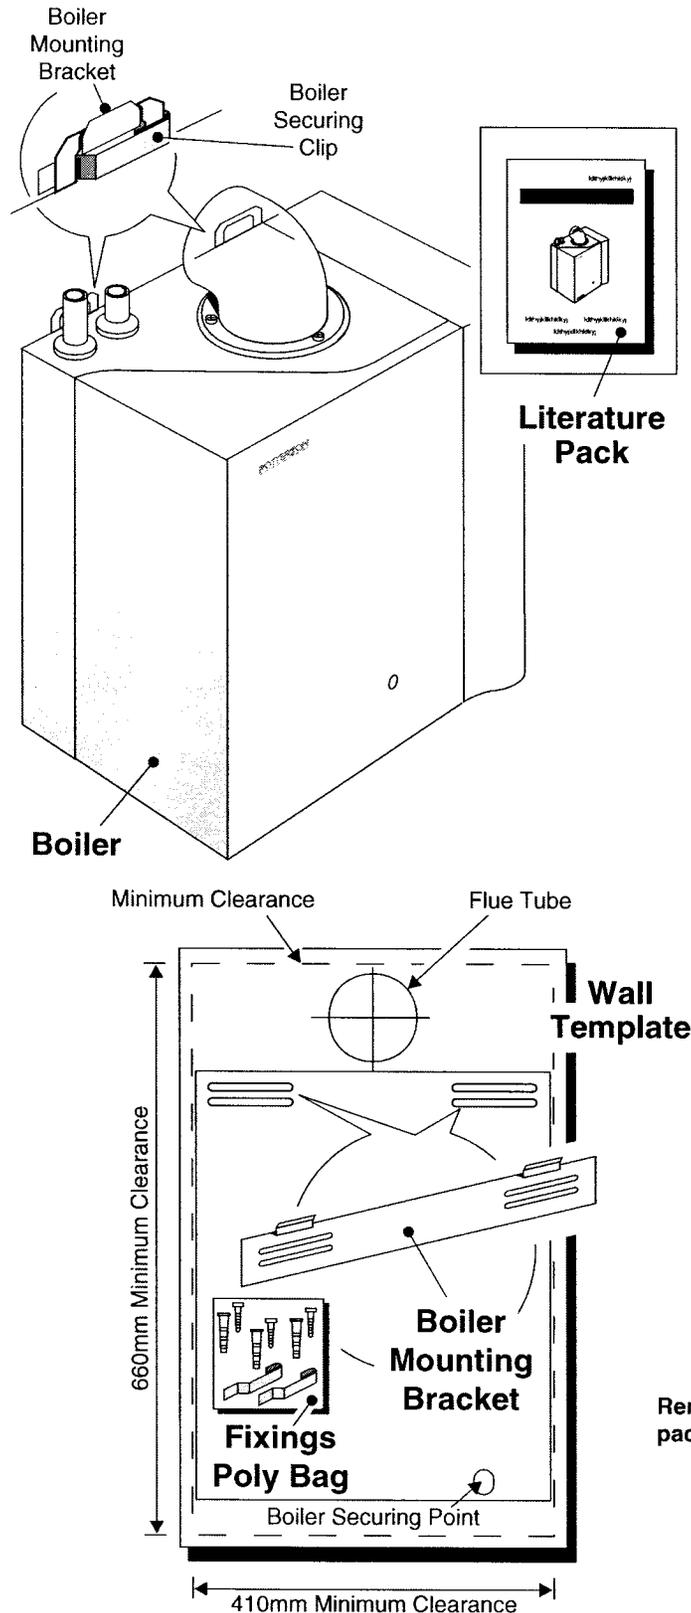

Fig. 7
10. Lift the boiler onto the mounting bracket, slide both boiler securing clips over the mounting bracket (this prevents the boiler from being accidentally lifted off the mounting bracket), see Fig. 7. To square the boiler to the wall adjust the boiler alignment screws on the back panel of the boiler.